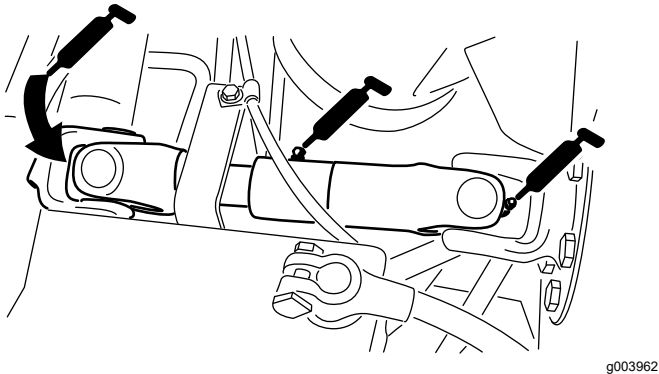

Figure 71
- Pump driveshaft U-joint (3)—Figure 71